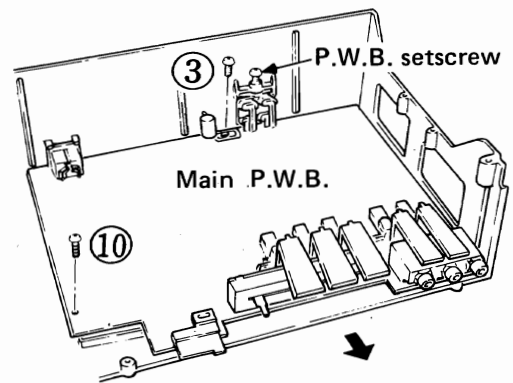
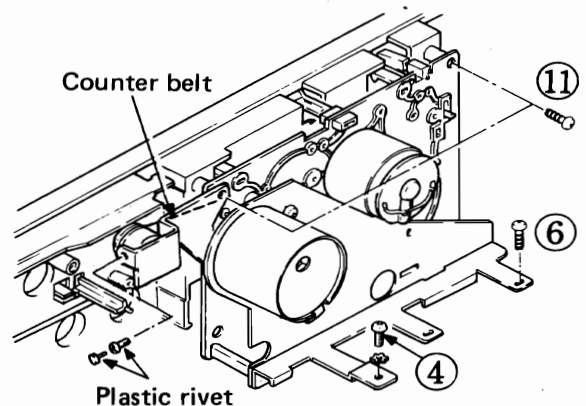

Fig. 7
Fig. 8
After top cover is removed, remove screw ②, screw ③ (Fig. 7) and screw ④ (Fig. 8).
After cassette lid is removed, remove five screws ⑤, screw ④ (Fig. 8) and screw ⑥ (Fig. 8).
8. **Main P.W.B. (Fig. 7)**
9. **Cassette Chassis (Fig. 8)**